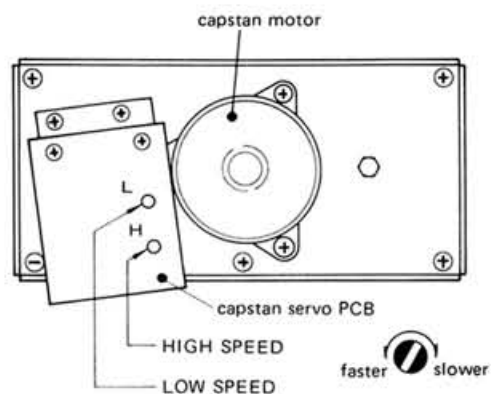

Fig. 2-25
3. Play the tape. Adjust HIGH SPEED control (see Fig. 2-25) for a reading of 3,000Hz \pm 5Hz.